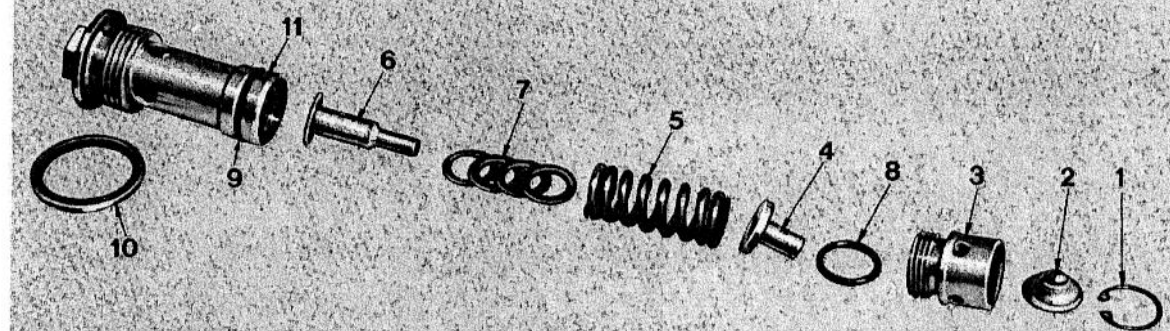

FIG. 19
1. (Fig. 19) Clamp the hexagon head of the body in a soft-jawed vice.
2. Remove the circlip (1) and lift out the ball and cup sub-assembly (2).
1. (Fig. 19) Place the shim(s) (7) against the shoulder of the spring guide (6) and slide the spring over the stem of the guide. Insert these items in the body. (11).
3. Fit a new O-ring (8) around the shoulder of the retainer below the thread and screw the retainer into the body. Tighten to a torque of 10 to 15 lbf-ft. (1,4 to 2 mkg).
4. Replace the ball and cup sub-assembly (2) and secure with the circlip. (1).
5. Fit a new O-ring (9) in the external groove in the body and a new bonded seal (10) beneath the hexagon shoulder.